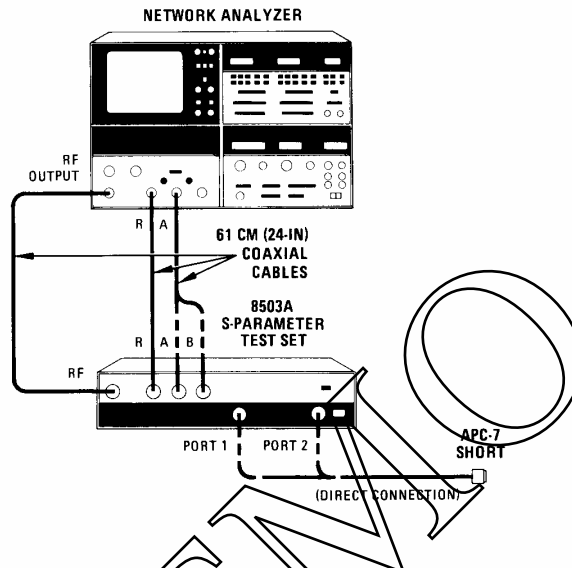

Figure 4-7. Test Port Open/Short Ratio Test (2 of 2)
- b. Connect equipment as shown in Figure 4-7, Configuration A with 8503A port A connected to 8505A INPUT A and adapter, 6-ft. coaxial cable, and short connected to PORT 1. Set S-PARAMETER SELECT switch to FORWARD.